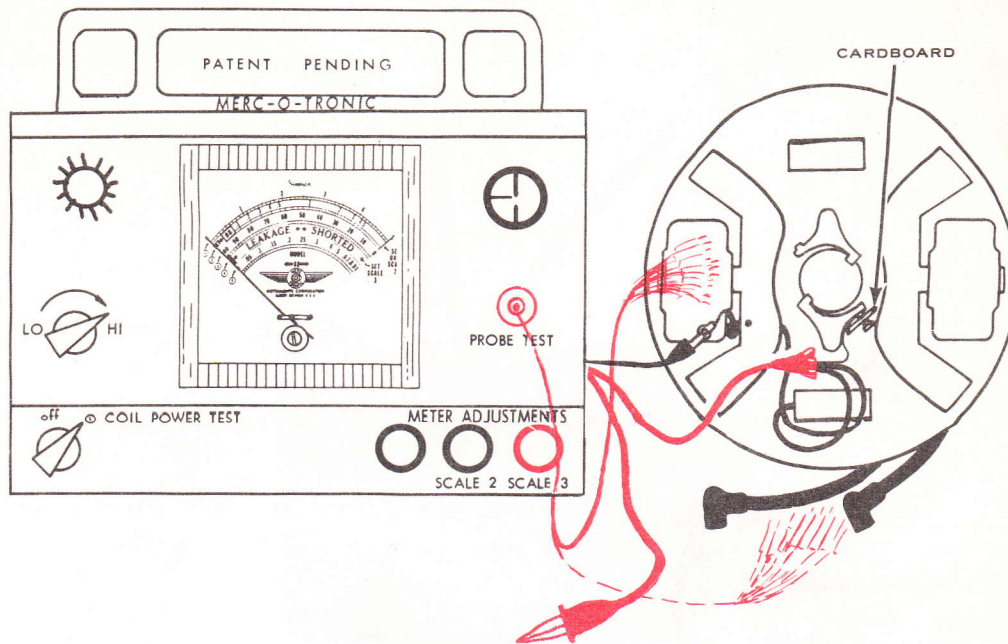

Figure 8
1. Remove single red test lead from coil secondary, (High Tension lead) see illustration Fig. 8.